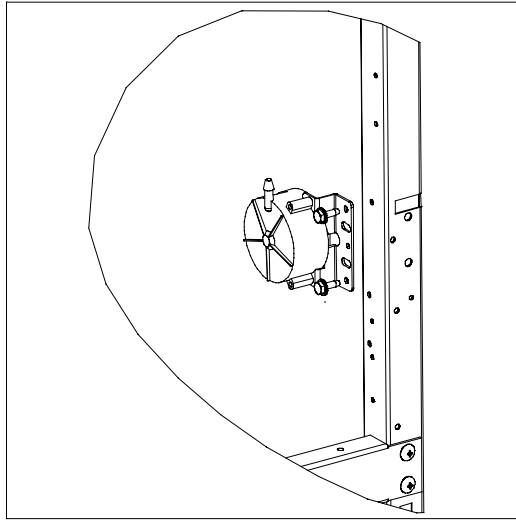

Figure 1
2. Mount the Air Switch on the right doorpost of the fryer as shown in Figure 1. One of the existing holes in the doorpost may be used for one mounting screw, but at least one new hole must be drilled for the second screw.